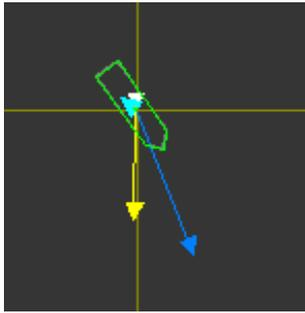

Figure 22: Off Set Orientation
- VESSEL ORIENTATED selected: Shows the map orientated in relation to the vessel. If desired an offset for the orientation can be entered, for instance if the monitor is not facing in forward direction. See *Figure 22: Off Set Orientation* on page 34 where an offset of 180° is entered (workstation facing AFT ship).
- VESSEL FIX selected: The image of the vessel is locked in the center of the map and the target position is moving. See *Figure 22: Off Set Orientation* on page 34 for example.